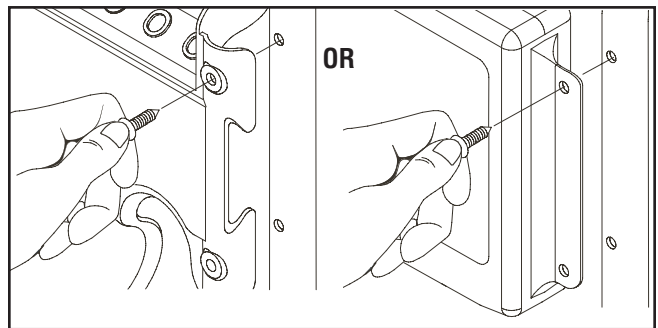

Figure 3 — Attach Accessory Tray or Cleaning Tank to Handle
3. Place accessory tray or cleaning tank over holes on handle (viewing from front of unit). Push the tree clips into the holes until they sit flat against the accessory tray or cleaning tank (see Figure 3).